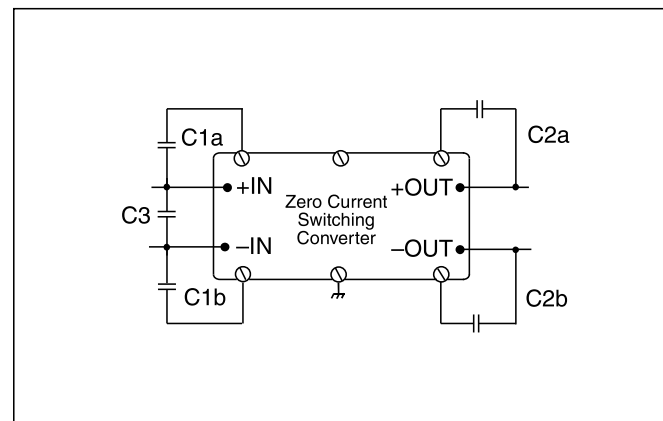

**Figure 3–1** — IN and OUT pins bypassed to the module baseplate and input cap for low AC impedance
**Input Source Impedance.** The converter should be connected to an input source that exhibits low AC impedance. A small electrolytic capacitor should be mounted close to the module's input pins. (C3, Figure 3–1) This will restore low AC impedance, while avoiding the potential resonance associated with “high-Q” film capacitors. The minimum value of the capacitor, in microfarads, should be  $C (\mu F) = 400 \div V_{in \text{ minimum}}$ . Example:  $V_{in \text{ minimum}}$ , for a VI-260-CV is 200 V. The minimum capacitance would be  $400 \div 200 = 2 \mu F$ . For applications involving long input lines or high inductance, additional capacitance will be required.
All applications utilizing DC-DC converters must be properly bypassed, even if no EMC standards need to be met. Bypass IN and OUT pins to each module baseplate as shown in Figure 3–1. Lead length should be as short as possible. Recommended values vary depending on the front end, if any, that is used with the modules, and are indicated on the appropriate data sheet. In most applications, C1a – C1b is a 4,700 pF Y-capacitor (Vicor Part # 01000) carrying the appropriate safety agency approval; C2a – C2b is a 4,700 pF Y-capacitor (Vicor Part # 01000) or a 0.01  $\mu$ F ceramic capacitor rated at 500 V. In PCB mount applications, each of these components is typically small enough to fit under the module baseplate flange.